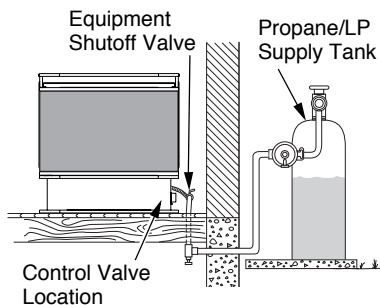

Figure 9 - Checking Gas Joints
3. Check all joints from gas meter to equipment shutoff valve (see Figures 9 and 10). Apply noncorrosive leak detection fluid to gas joints. Bubbles forming show a leak.
4. Check all joints from equipment shutoff valve to control valve (see Figures 9 and 10). Apply noncorrosive leak detection fluid to gas joints. Bubbles forming show a leak.